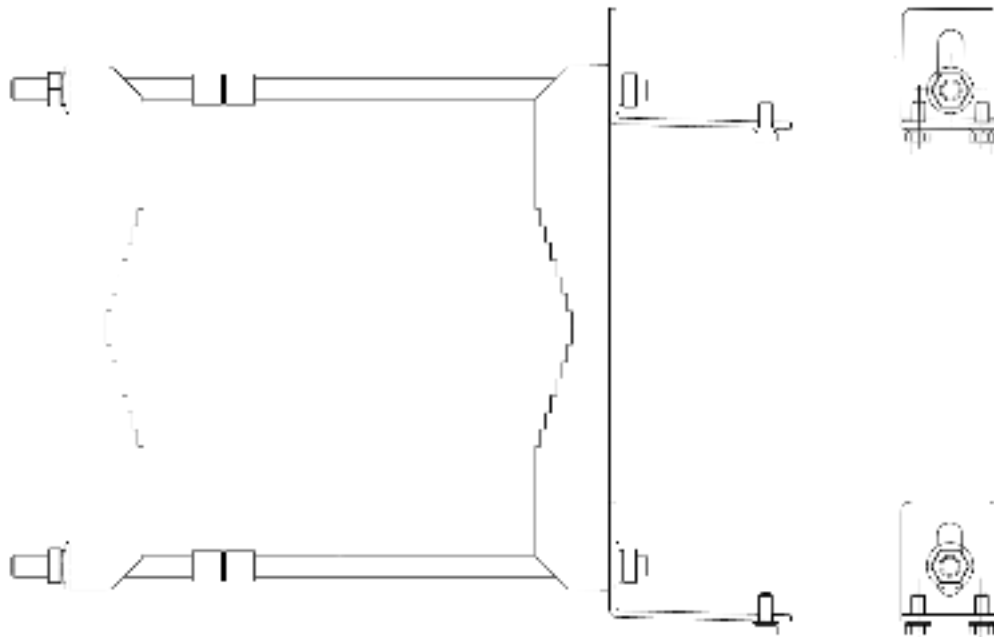

Figure 5.1-1: Pole mount clamp attached to the mounting brackets
The pole mounting kit is included as part of the standard offering, providing a mounting system suitable for typical installation environments. Using this kit, the goRAN™ LTE Base Station can be securely mounted directly onto a pole with a diameter ranging from 1.6 to 9.1 inches (40 mm to 230 mm). Note that the wall mounting kit can be chosen during the ordering process. In Figures 5.1-1 and 5.1-2, the assembly and installation of the goRAN™ LTE Base Station on the pole are depicted. Table 5.1 shows the mounting items.
Step 1: Use the nuts and mounting studs to attach the mounting brackets to the pole mounting clamps, assembling the mounting kit on the pole as shown in Figure 5.1-1. Extend the mounting studs with the long nuts if necessary.